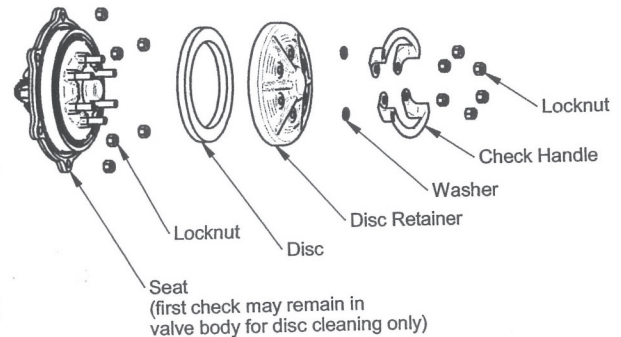

Figure 7
If only cleaning of the first check is necessary, simply remove the six (6) nuts for 8" valves / eight (8) nuts for 10" & 12" valves on the black plastic disc retainer (See Figure 7). Remove the check handles and washers and lift the disc retainer and disc out of the body. Rinse the disc with clean water or replace if necessary. The disc may be flipped over for a temporary repair, but should be replaced if damaged. Replace the disc, disc retainer, washer, handle, and nuts. Do not over tighten locknuts.